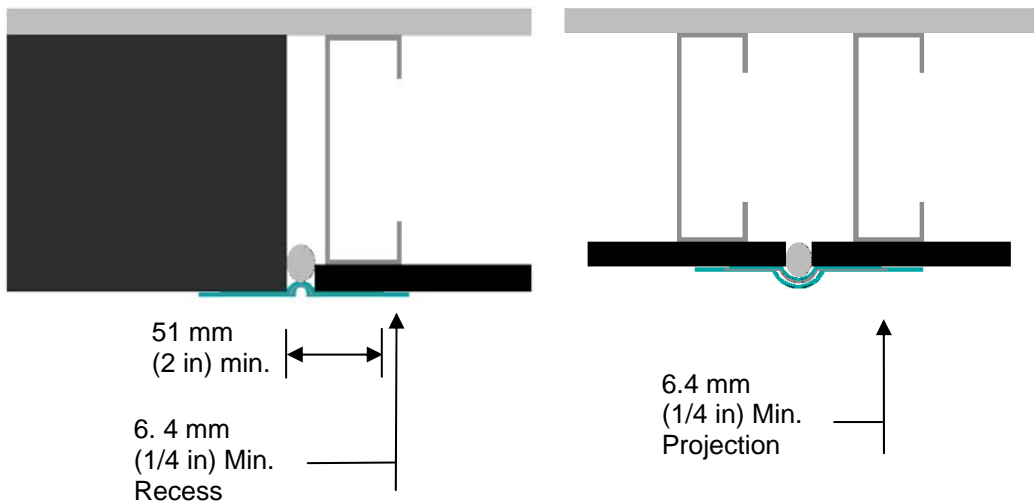

Figure 13
a. The width of the AquaFlash Mesh must overlap each side of the joint a minimum of 51 mm (2 in) - Figure 13.